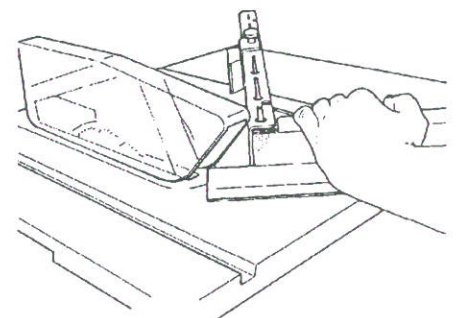

Fig.18
5. Hold the outer edge of stock you had previously rough cut against the short extension. Line it up so the saw blade will cut at the corner of the stock. Make sure the rabbet faces away from the short extension and down. See Fig.18.